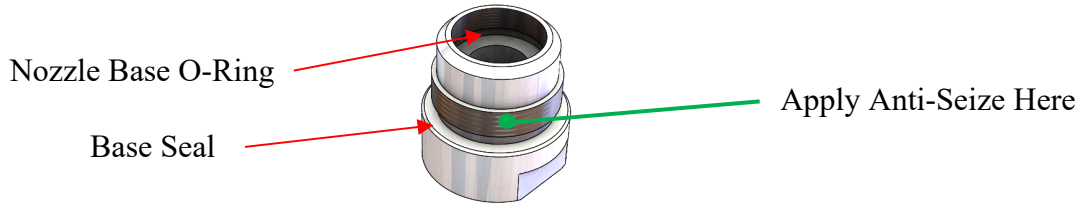

Figure 61: Inlet Base
13. Install the nozzle base o-ring into the lower corner of the nozzle pocket. See Figure 61.
25. Place the base seal onto the inlet base. See Figure 61.
26. Put a small amount of anti-seize on the threads of the inlet base that get screwed into body. See Figure 61.